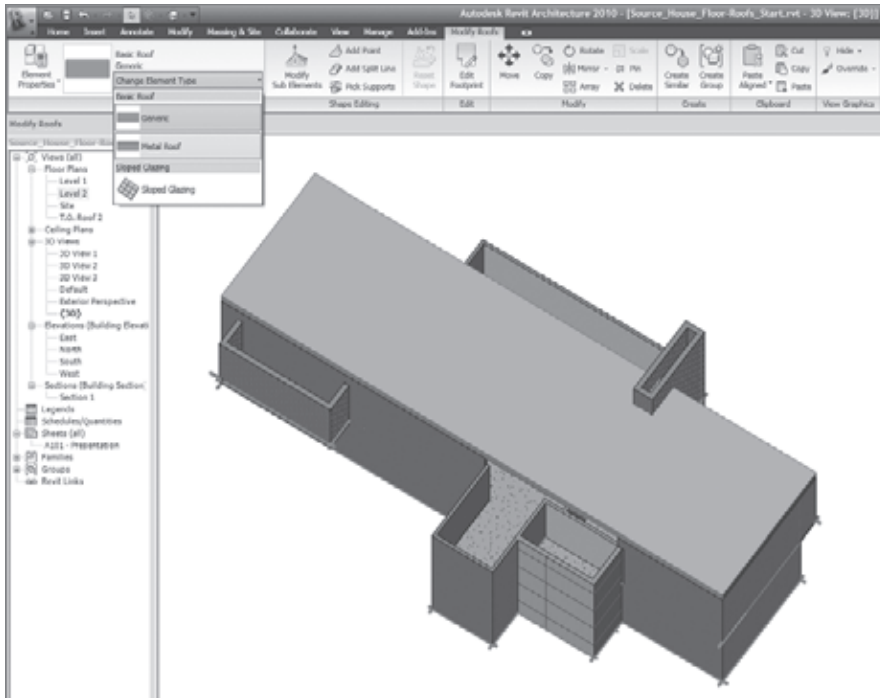

Figure 4.70
10. Select the roof, and use the type selector to change its type from Basic Roof: Generic – 12" to Basic Roof: Metal Roof. The metal roof has a pattern of lines that represents standing seam roof panels defined in the type properties of that roof type (see Figure 4.70).